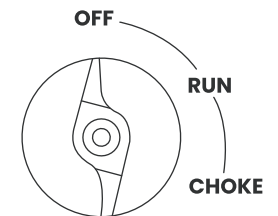

Fig.13
- 2 Turn the engine/fuel switch to "OFF" position (see Fig.13).